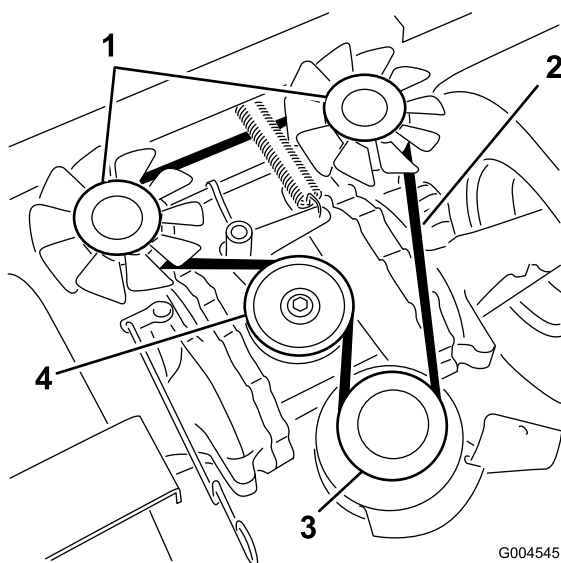

Figure 46
3. To replace the belt, remove the bolt from the clutch stop and unplug the clutch electrical wire (Figure 46).
4. Pull on the idler pulley to relieve the belt tension on the idler pulley (Figure 46).
5. Remove the pump drive belt from the engine and the hydraulic pump pulleys (Figure 46).
6. Install the new belt around the engine and the hydraulic pump pulleys (Figure 46).
8. Release the pressure on the spring loaded idler (Figure 46).